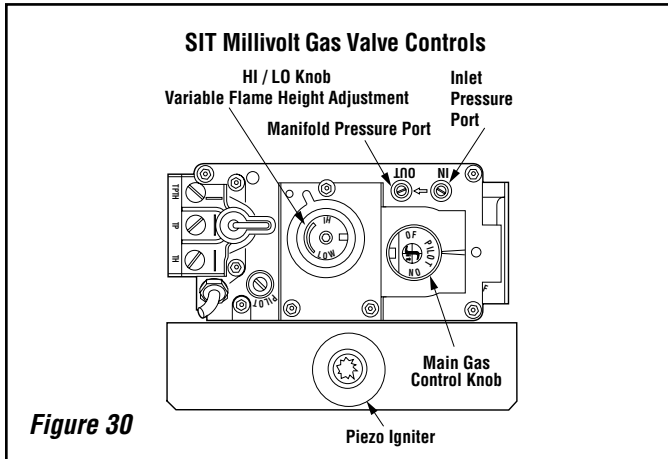

Figure 30
- Loosen setscrew at inlet pressure tap on upper right of control valve (see **Figure 30**).
With gas line installed run initial system checkout before closing up the front of the unit. Follow the pilot lighting instructions provided in the Homeowner's Care and Operation Instructions (or pull out the instruction label located in a holder on rear shield of stove). For piezo igniter location see **Figure 30**.